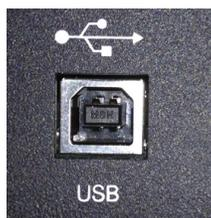

FIG. 19 Serial Audio Conference Device Connections
2. The Alero USB port is used to pass audio to local equipment used to make conference calls (i.e., a local room PC being used to make Skype calls). If using the USB port for Audio output, connect the cable to the USB port (FIG. 19).